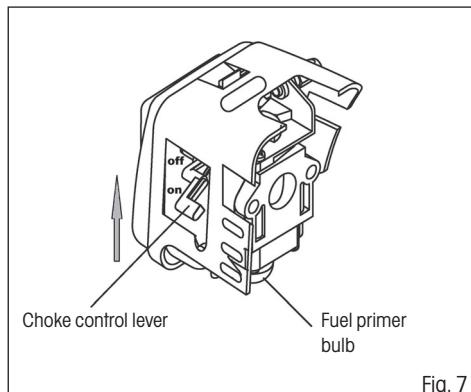

Fig. 7
2. Repeatedly push down the fuel primer bulb (5 to 10 presses), until the fuel gets to the carburettor. (see fig. 7)
3. Move the choke lever upwards to the "OFF" position (=air supply turned off, i.e. choke turned on). (see fig. 7)